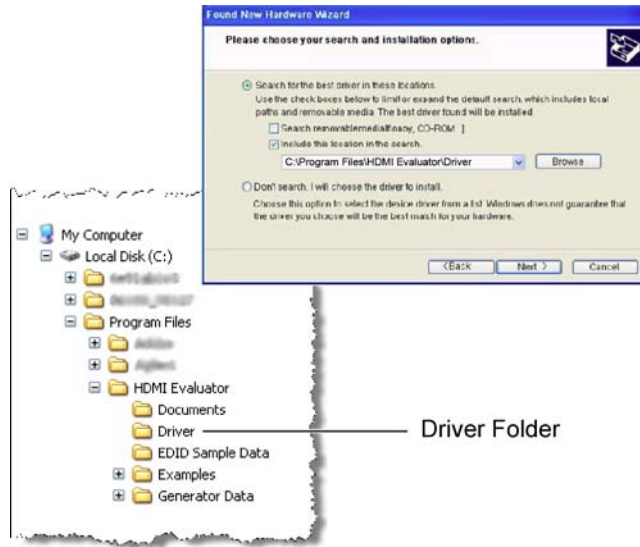

Figure 8 Installation Options
- 6 As shown in Figure 8, select “Search for the best driver in these locations” and “select Include this location in the search”.